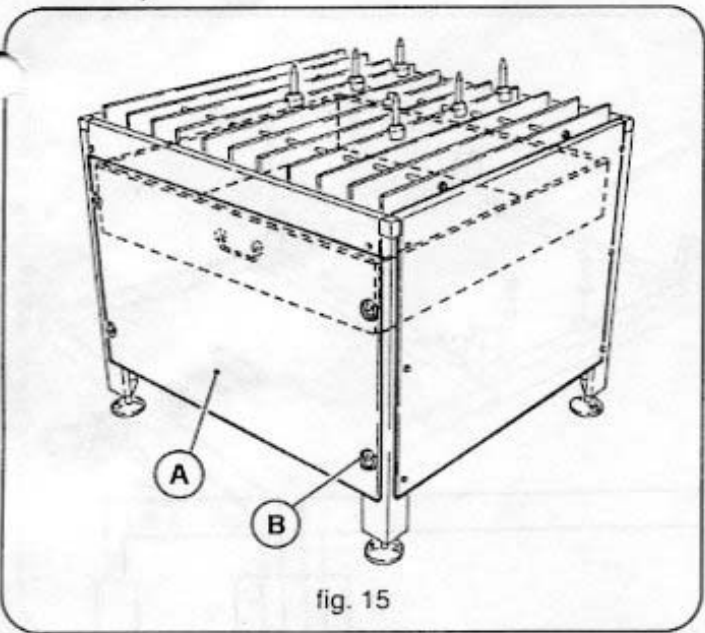

fig. 15
- Insert the water tub with the handles facing as shown in fig. 15.
- Position the grid on the bench (fig. 15).
- Screw the long or short support tips onto the tip holders, and rest them on the grid (fig. 15) so that they correctly support the metal to be cut.